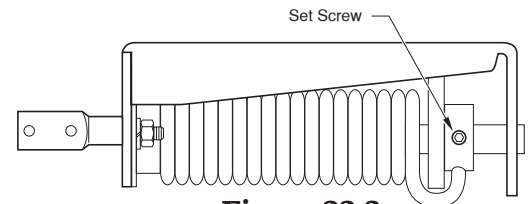

Figure 22-2
- 4) **Figure 22-2.** Disassemble spring assembly by loosening set screw at rear of assembly. Pull spring support shaft out from the front of assembly.
- 5) **Figure 22-2.** Place spring assembly housing up underneath dump body aligned at point B. Rest the top edge against the bottom of the dump body. Once in place, trace the holes onto the dump body.